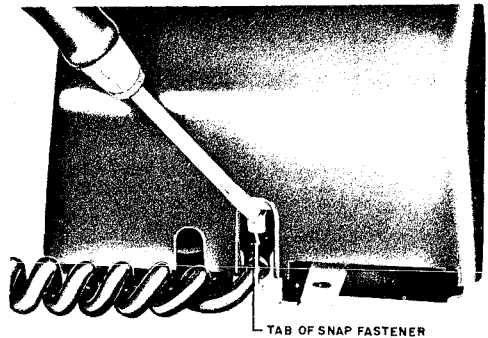
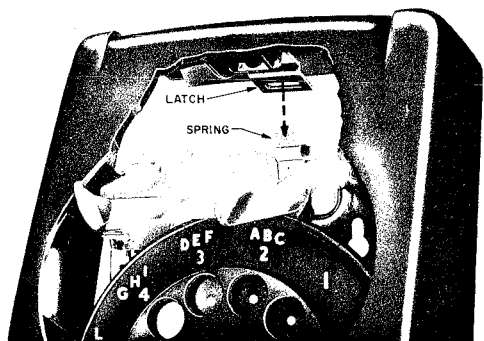

Fig. 12 — Wall-Type Telephone Set, Method of Removing Housing
Fig. 14 — Wall-Type Telephone Set, Method of Replacing Housing
(2) To remove housing on wall-type telephone sets, push inward on tab of snap fastener located in the cord slot and, while the tab is depressed, lift the lower part of the housing outward and upward, releasing fastener catch and disengaging latch opening assembly (see Fig. 12 and 13). To replace, slip housing over switchhook and dial, engage the latch spring assembly, then press firmly on lower part of housing to engage snap fastener and catch (see Fig. 14).